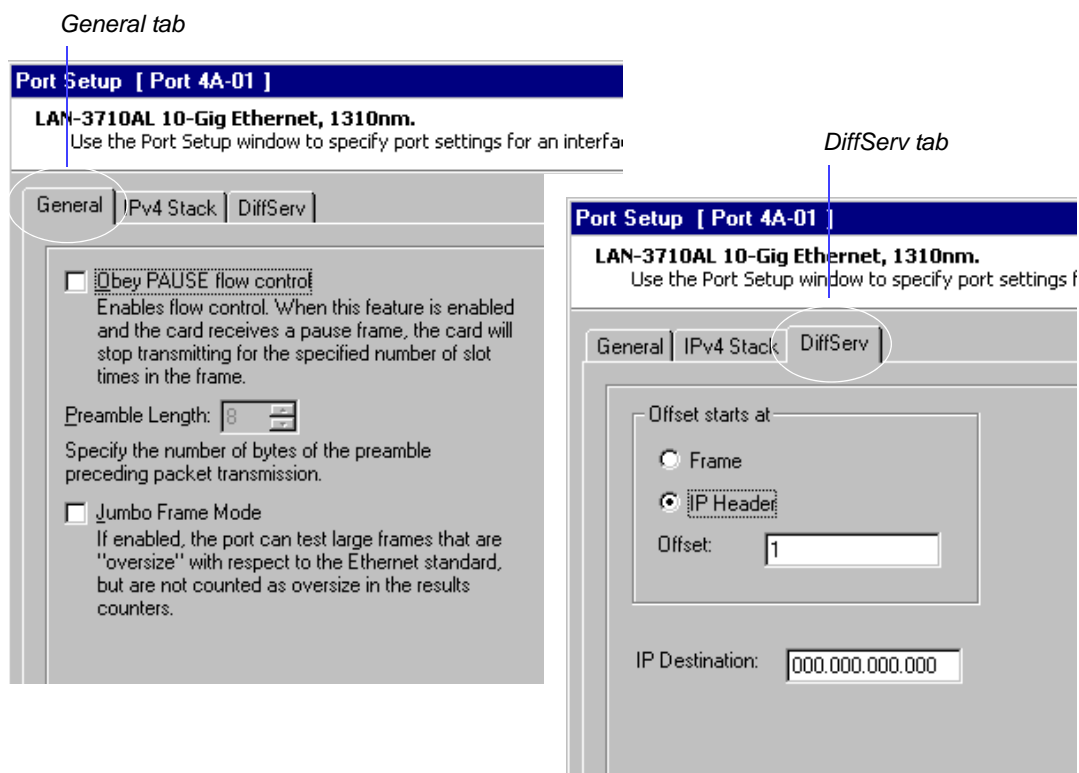

Figure 8-27. Port Setup window
- 3 The *Port Setup* window appears (*Figure 8-27 on page 357*).